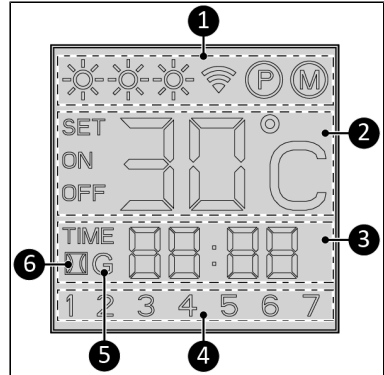

Figure 21.
Status indication (Figure 21, pos. 1):
Temperature indication (Figure 21, pos. 2):
Time indication (Figure 21, pos. 3):
Day indication (Figure 21, pos. 4):
Wi-Fi indication (Figure 21, pos. 5):
Open window detection (Figure 21, pos. 6):